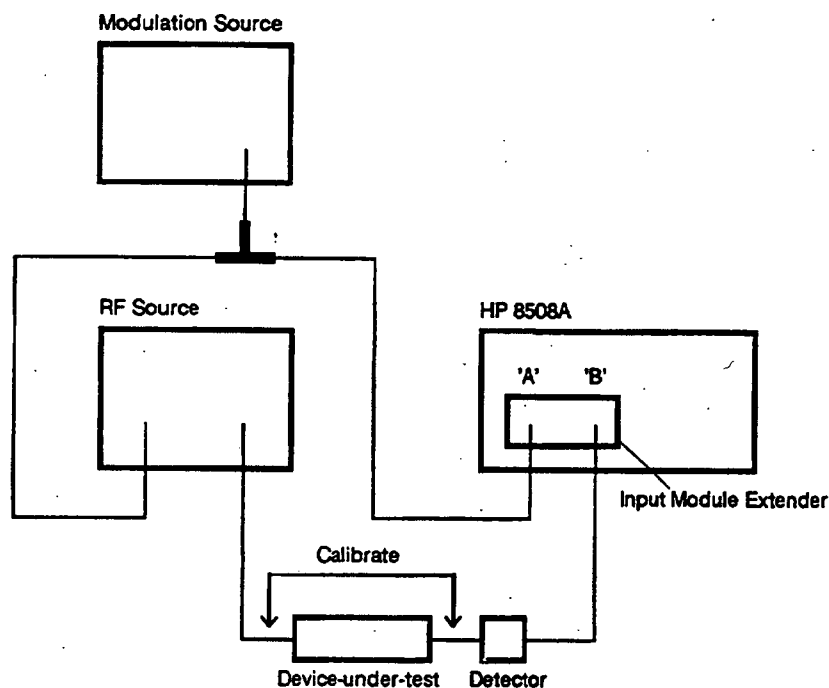

Figure 3-16. 20kHz Receiver Setup
2. To calibrate the circuit, configure the equipment as shown in Figure 3-16, without connecting the device to be tested.